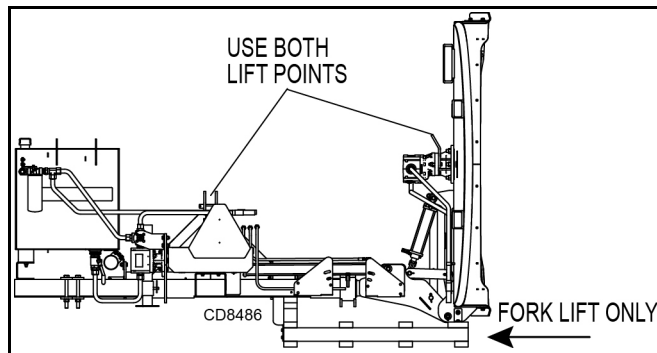

Figure 33. Cutter on Pallet
2. It is necessary to hoist unit using top hitch pin and bracket at motor. (See Figure 33). use rated chains or straps. Remove shipping strap from lower hitch pin and two shipping brackets at deck. Do not lift unit from below hitch as unit is prone to tipping under this condition.